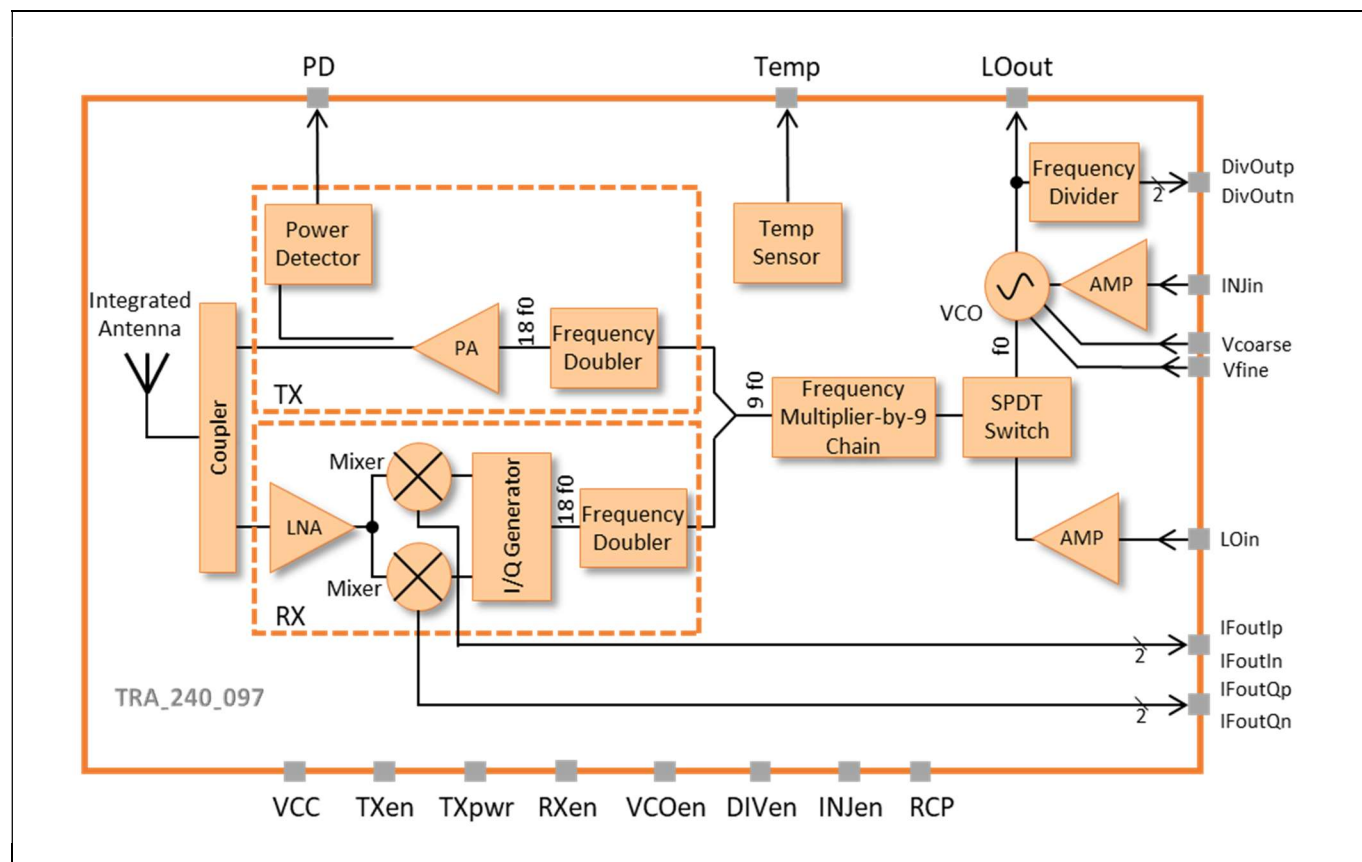

Figure 1 Block Diagram of 240 GHz radar chip TRA\_240\_097.
The radar front end TRA\_240\_097 is an integrated transceiver circuit for 240 GHz operation with on-chip antenna. It includes a voltage-controlled oscillator, divide-by-8 frequency divider, an SPDT switch, a frequency multiplier-by-9 chain, frequency doublers, mixers, a low-noise amplifier, a power amplifier, antenna-coupler and integrated antenna (see Figure 1). For proper functionality, a lens must be placed on top of the chip. The lens can be provided. The RF signal from the oscillator is amplified and fed to the frequency multiplier-by-9 chain, a doubler, and via a coupler to the integrated antenna. The RF signal from the oscillator is also directed to the RX path via amplifier and frequency doubler. The RX signal from the antenna is converted to baseband by a mixer with multiplied LO-signal. The 13.5 GHz VCO has two analog tuning inputs with different tuning ranges and tuning slopes. Both tuning inputs have to be used to obtain the wide RF frequency tuning range of 45 GHz. The analog tuning inputs together with the integrated frequency divider and external fractional-N PLL can be used for frequency modulated continuous wave (FMCW) radar operation. With fixed oscillator frequency it can be used in continuous wave (CW) mode. Other modulation schemes are possible as well by utilizing the analog tuning inputs. The chip can be fed with external LO signal. Many chips can be aligned in a massive MIMO system with external LO or daisy chained using on-chip VCO. The IC is fabricated in SG13G2 SiGe BiCMOS technology.